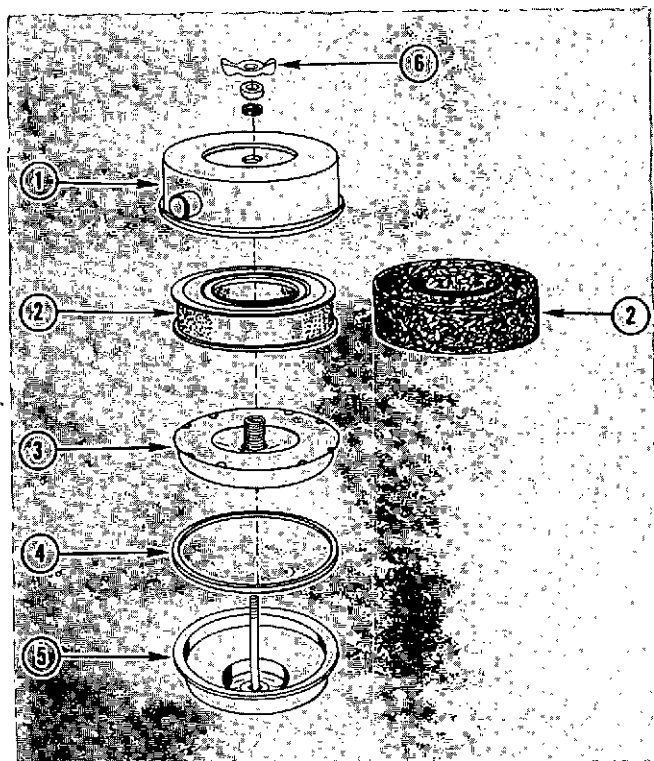

Fig. 2-19 (V51909) Crankcase breather — mesh element with vapor barrier
1. Remove wing nut (6, Fig. 2-19), flatwasher and rubber washer securing cover (1), to breather body (5).
2. Lift off cover and lift out breather element (2), vapor element (3) and gasket (4).
5. Install cleaned or new breather element (2, Fig. 2-19) and cleaned vapor element (3) to breather body (5).
6. Install rubber gasket (4) in cover (1), position cover assembly to body (5).
7. Install rubber washer, flatwasher and wing nut (6); tighten securely.